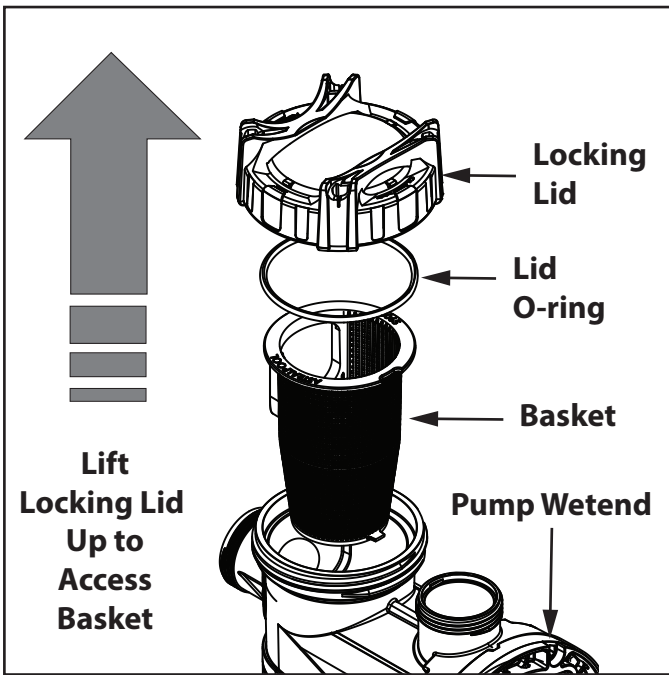

Figure 11. Remove Pump Lid
4. Following the markings on the locking ring, turn the ring counter-clockwise until the ‘START’ markings align with the ports. See Figures 11.